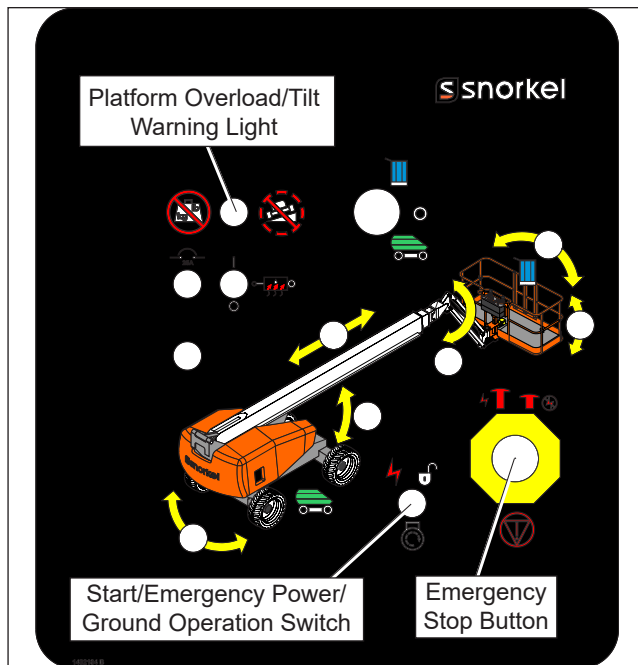

Figure 4.1 – Lower Controls Cummins
At the lower controls, the emergency stop is a two-position push button (refer to Figure 4.1 and 4.2).
- Hold the emergency power switch (refer to Figures 4.1 and 4.2) in the proper position to activate the emergency power system.
The ground operation switch (refer to Figure 4.1 and 4.2) prevents boom and platform movement if a control switch on the lower control panel is accidentally moved.
All functions are stopped from the upper and lower controls, when the platform overload limit is exceeded. The horn will sound intermittently and the platform overload light (refer to Figure 4.1, 4.2 and 4.3) will blink until the excess load is removed from the platform. At that time, the machine functions are again operational.
- an alarm will sound and the tilt warning light on the lower and upper control panels (refer to Figures 4.1, 4.2 and 4.3) will illuminate.